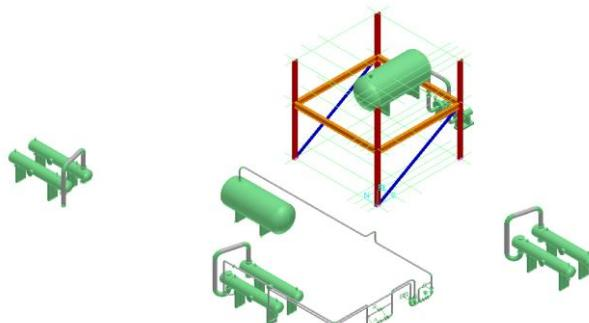
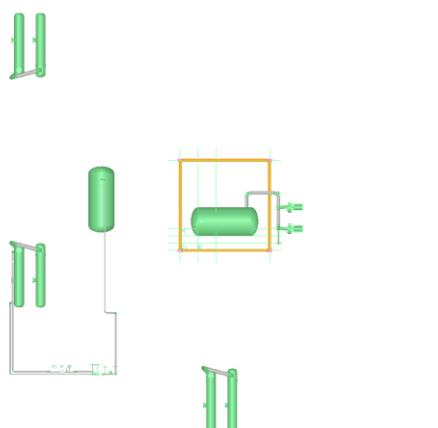

Figure 15.51: Isometric View
Figure 15.52: Plan View
12. Click the **Finish** button on the **Mirror Copy** ribbon. The mirrored objects will appear in the graphic view, as shown in Figure 15.51 and Figure 15.52.